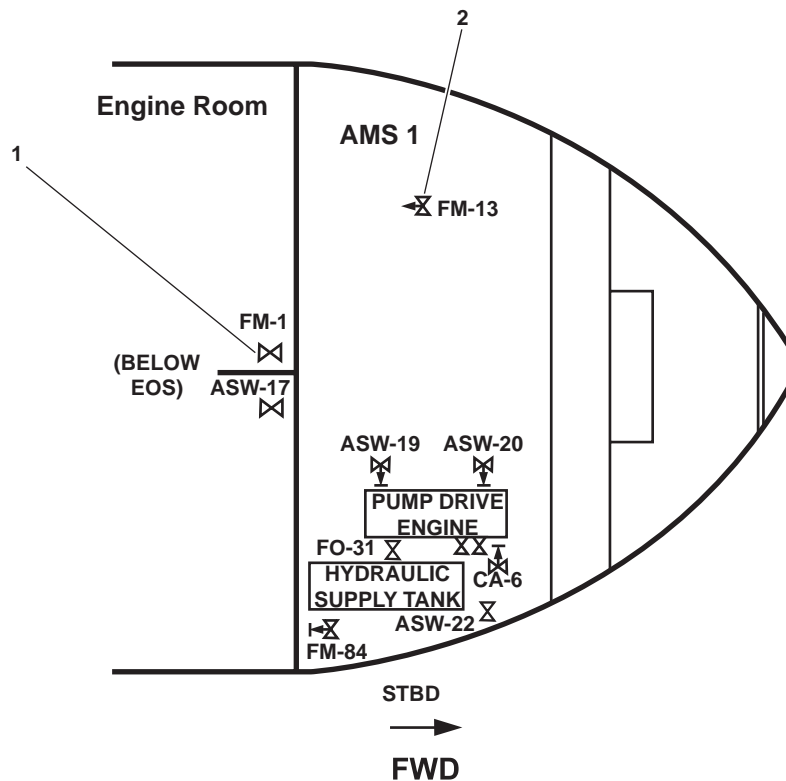

Figure 2. Valve Locations
2. OPEN valve FM-1, SEA SUCT, F.F. PMP (figure 2, item 1), located beneath the EOS.
7. OPEN FM-13, F.F. TO F.M. CRSVR (figure 2, item 2), fire pump to fire main cross connect, located in the overhead in AMS 1.
- b. CLOSE FM-13, F.F. TO F.M. CRSVR (figure 2, item 2).
4. OPEN FM-13, F.F. TO F.M. CRSVR (figure 2, item 2), fire pump to fire main cross connect.